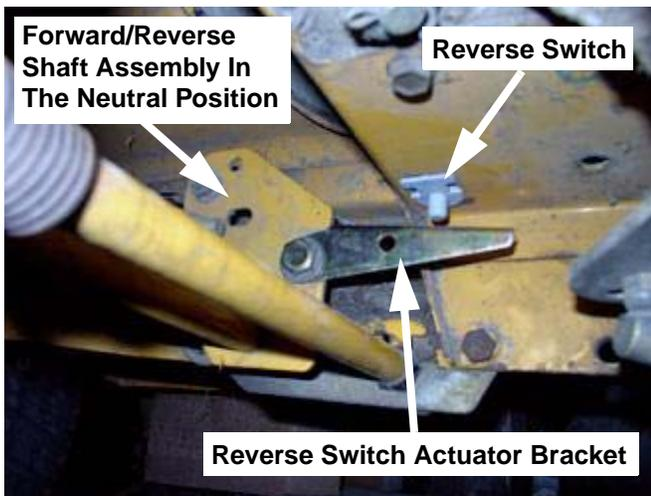

FIGURE 7
23. Figure 7 shows the 703-2965 reverse switch actuator from the 759-04228 Service Kit installed with the forward/reverse shaft assembly in the neutral position.